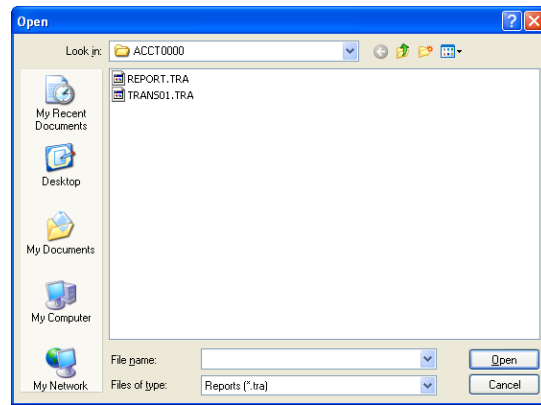

Figure 60
- To view other transaction files, click the VIEW FILE button. The Open file window (Fig 60) will appear on the transaction screen. Select the transaction file that you want to view by clicking the file then clicking OK. The transactions for the file that you selected will appear on your screen. Transaction files have a .TRA extension. *NOTE: If you want to view all transactions files, click the GENERATE REPORT button. When the report generator window appears, simply click the OK button without entering any report parameters. This will cause all transaction files to be displayed in chronological order.*